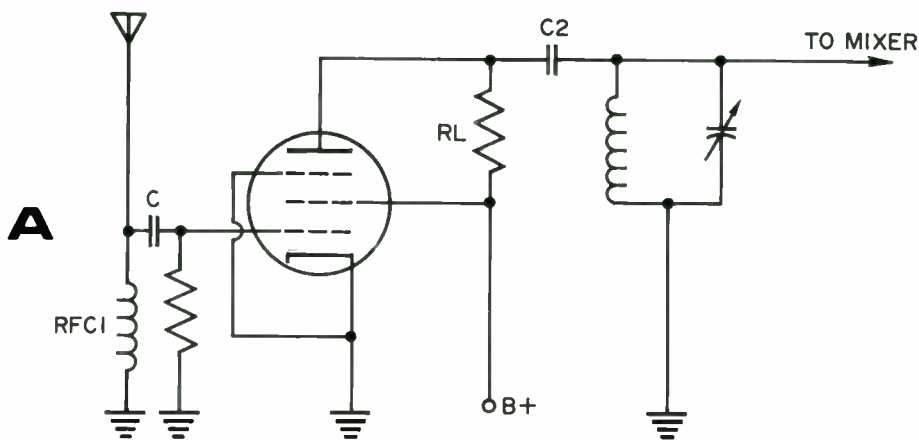
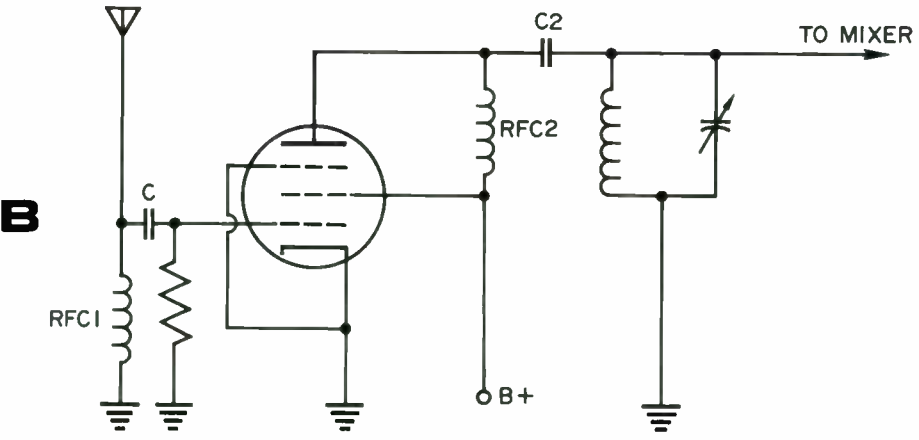

Figure 9A - Untuned RF amplifier with a resistive load.
Figure 9B - Untuned RF amplifier with an inductive load.
The untuned RF amplifier does not improve selectivity. It does, however, improve the sensitivity of a radio and allow it to receive weaker signals. Examples of untuned RF stages are shown in Figures 9A and 9B. In both cases, signal currents appearing in the
In Figure 9A, amplified signal voltage appears across R_L and is applied to the tuned RF coil at the input of the mixer, through C2. The circuit in Figure 9B is similar in operation but it uses a second RF choke (RFC2) as a plate load. RFC2 has much less DC resistance than R_L (Fig. 9A) and therefore drops less of the DC voltage applied to the plate. The plate of the tube operates at a greater potential and it can provide more gain. The circuit of Figure 9A is a resistance-capacitance (RC) coupled circuit. Figure 9B illustrates an inductance-capacitance (LC) coupled circuit.